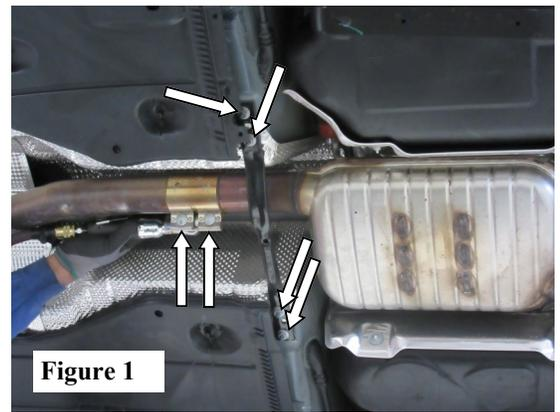

Figure 1
1. Loosen two bolts on cross-brace and drop-down for access to band clamp bolts. Loosen and remove 2 13mm bolts on band clamp and slide clamp towards front of vehicle. (See Fig. 1)